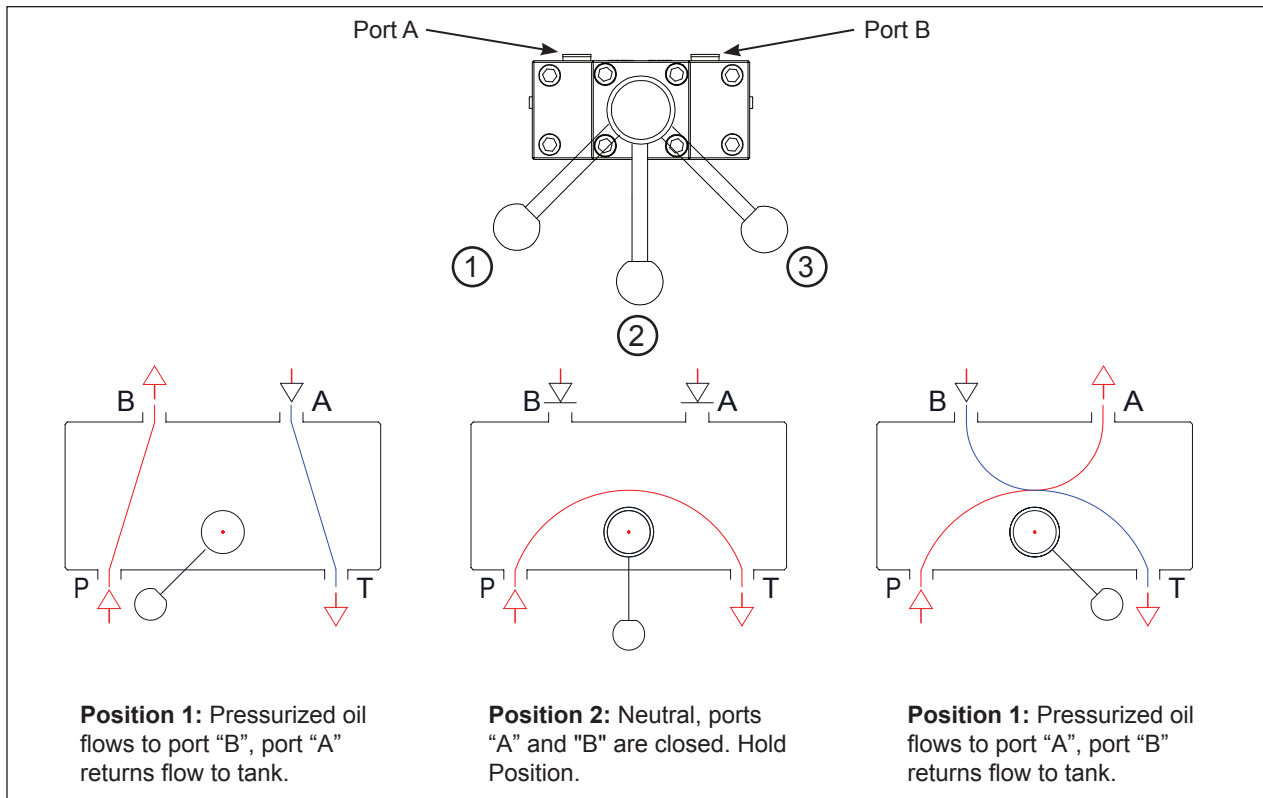

Figure 2 - Flowpath of the valve positions and operations
3. Shift the valve to desired position. There are three positions available, refer to Figure 2 on below for the flowpath.